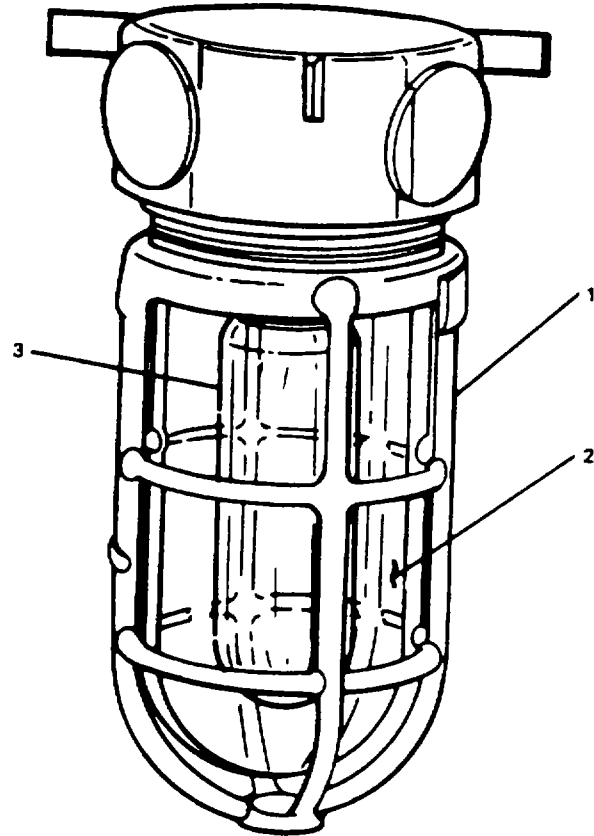

Figure 2-71. Junction Box Lighting (Typical).
- a. Remove guard (1, Figure 2-71) from fixture by turning counterclockwise.
- b. Remove globe (2) from fixture by turning counterclockwise.
- c. Remove lamp (3) from lamp socket.